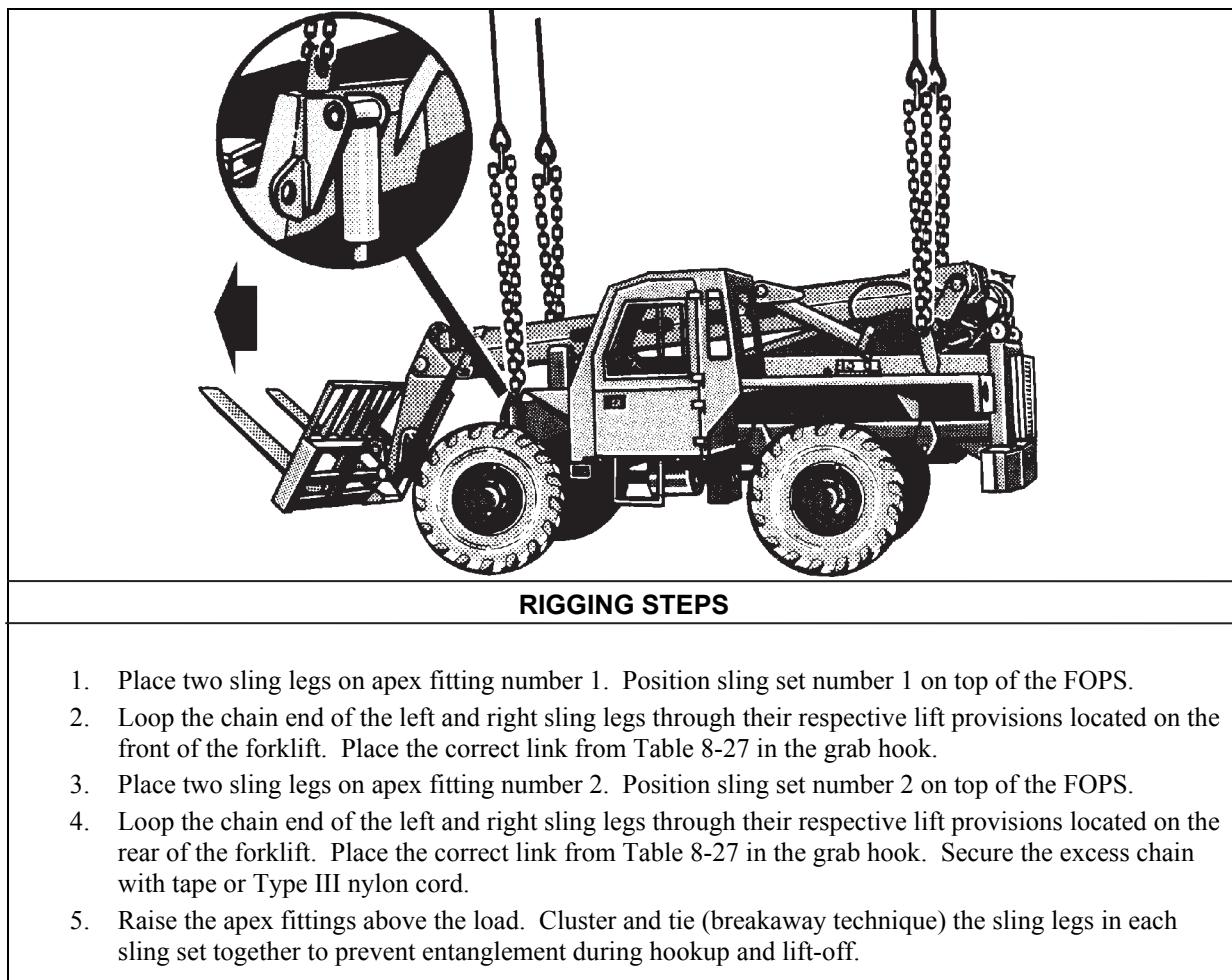

Figure 8-27. Extendable Boom Forklift
- **Rigging.** Rig the load according to the steps in Figure 8-27.